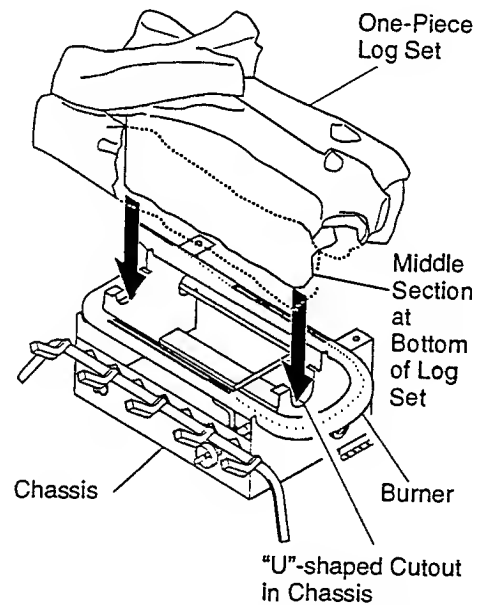

Figure 20 - Installing Golden Oak or Birch One-Piece Log Set
1. Place one-piece log set on grate to fit as illustrated in Figure 20. Make sure middle section at bottom of log set is seated into "U"-shaped cutout in center of chassis (see Figure 20). *Note:* 36" model has more features but fits on the chassis the same. Log will fit securely on chassis. **IMPORTANT:** Make sure log does not cover any burner parts.